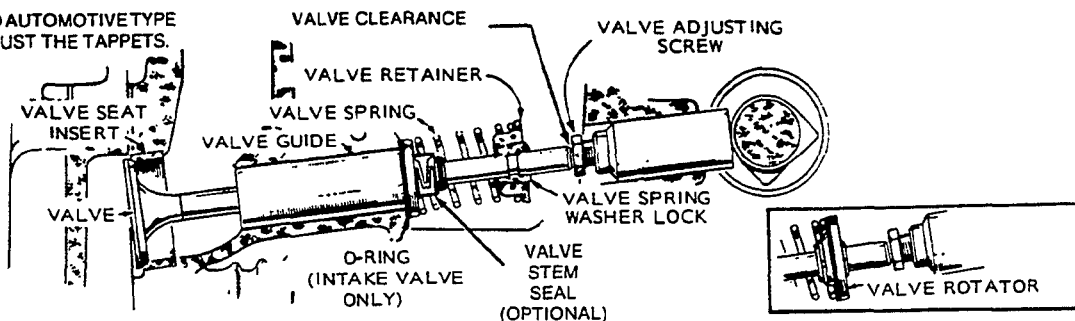

FIGURE 1. VALVE ASSEMBLY
5. The correct feeler gauge for the valve adjustment (see *SPECIFICATIONS*) should pass freely between valve stem and tappet; a 0.002 inch (0.05 mm) thicker gauge should not (Figure 1).
A properly functioning valve system is essential for good engine performance. All engines utilize an L-head type valve design as shown in Figure 1. Access to the valve system can be obtained by removing the cylinder heads and the valve covers on top of the engine. A valve spring compressor must be used to remove valves from the cylinder block.